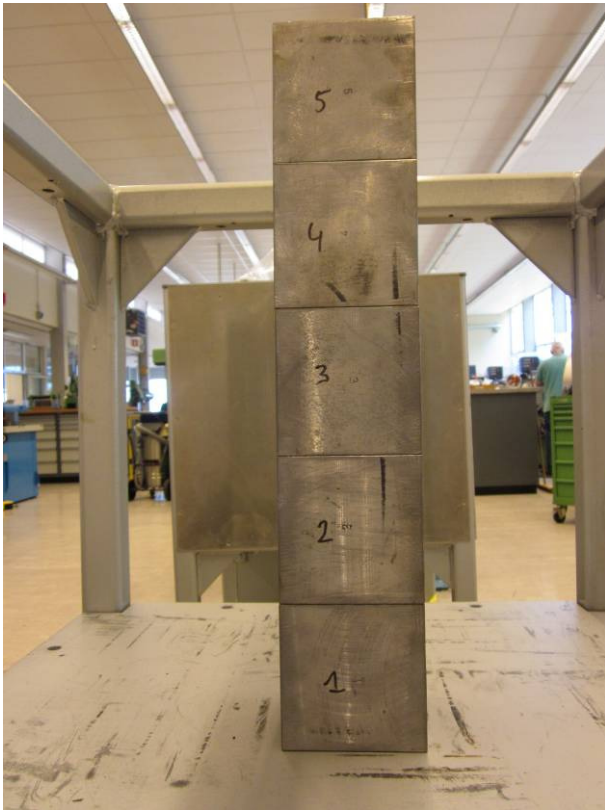
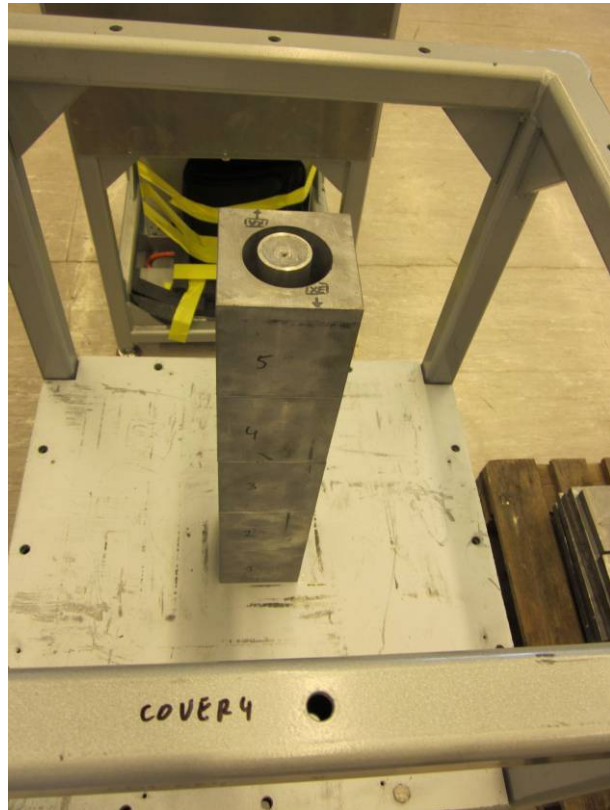

Figure 6: Central lead bricks.
Figure 7: Pay attention to the orientation of the bricks (markings cover4-XE).
1. With the source holder in shielded (down) position, place central lead bricks, numbered 1 to 5, as shown in Figure 6 and Figure 7. Be aware that brick 1 is different from the other 4. Pay attention to the orientation of the bricks (Figure 7). The guiding tube can be helpful to align the bricks.